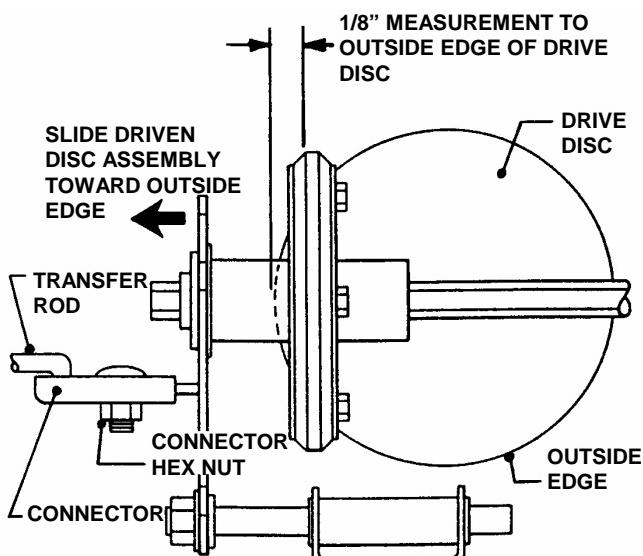

FIGURE 4.10
- Slide driven disc assembly over to  $1/8"$  from outside edge of drive disc. Maintaining the  $1/8"$  measurement, remove any looseness from the linkage. This can be done by holding the transfer rod and applying pressure to the left (as viewed from operators position). Then retighten the connector hex nut securely. See Figure 4.10. Move ground speed control to the first speed position, then back to the sixth speed position. Recheck the  $1/8"$  measurement described previously. Reinstall driven disc spring to driven disc assembly.